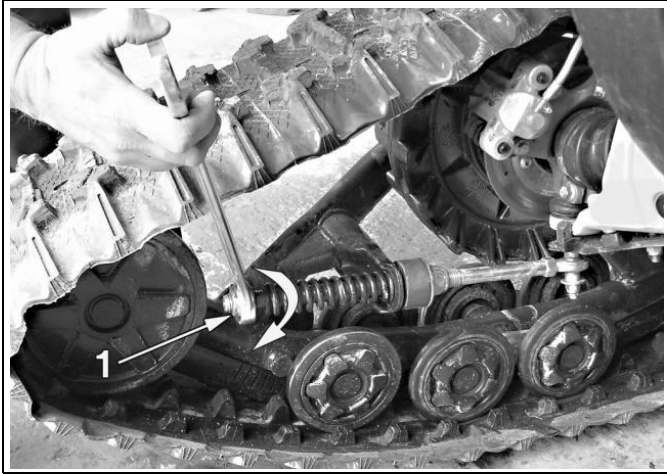

Figure 6
- Turn the nut (1) until it comes in contact with the spring, then compress the spring by turning this nut 1.5 turns (refer to Figure 6).
NOTE: In certain rare cases, where the adjustment of the nut (article 1 on Figure 6) compressing the spring, is close to the end of the threaded rod, lengthen the assembly by loosening the locknut (article 3 on Figure 7) and unscrewing the rod end so that a maximum 19 mm of its threads are visible. Make sure that the locknut is well tightened after the installation.